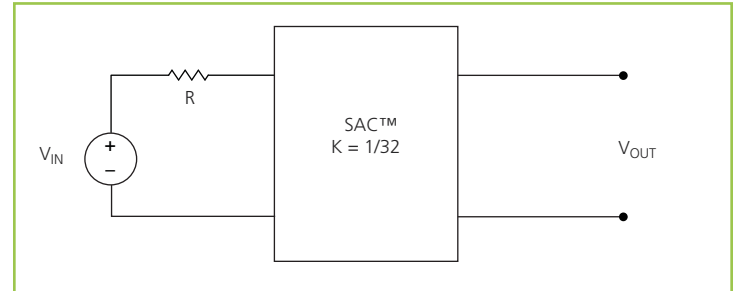

Figure 18 —  $K = 1/32$  Sine Amplitude Converter™ with series input resistor
$R_{OUT} = 0 \Omega$  and  $I_Q = 0 A$ , Eq. (3) now becomes Eq. (1) and is essentially load independent. A resistor R is now placed in series with  $V_{IN}$  as shown in Figure 18.
Assuming that  $R = 1 \Omega$ , the effective R as seen from the secondary side is  $0.98 \text{ m}\Omega$ , with  $K = 1/32$  as shown in Figure 18.